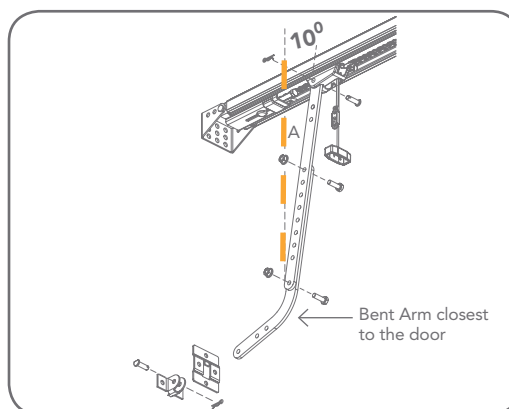

fig 19
- Connect the assembled arm to the bracket and the disengaged trolley with clevis and snap pins. The angle "A" must be more than 10° (Fig. 19). The bent section must be closest to the door.